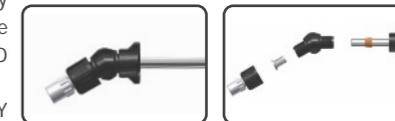

Figure 3B
- 5° - To adjust the conical spray jet, simply turn the adjustable nozzle tip (Figure 3B).